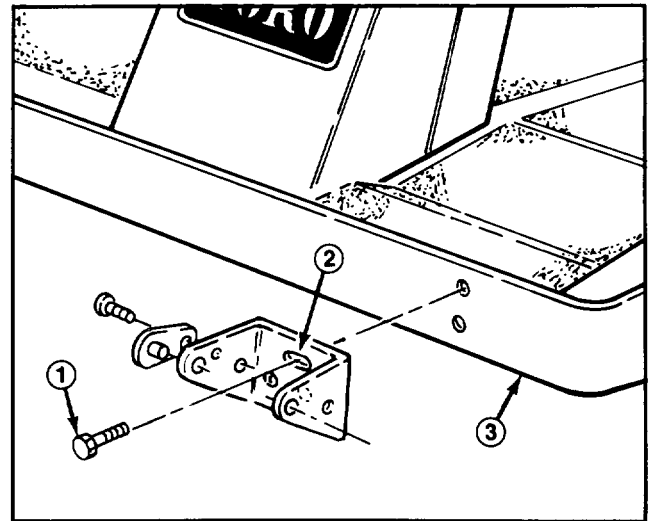

Figure 8
3. Install clevis pins through desired height-of-cut bracket holes and frame to secure cutting unit to frame (Fig. 8). Secure all four pins with hairpins.
- A. Groundsmaster 220-D and 224 — Insert (2) 3/8 x 1" capscrows through the slotted bracket holes. Thread the capscrows into captivated frame nuts and torque to 45-50 ft-lb (Fig. 8).